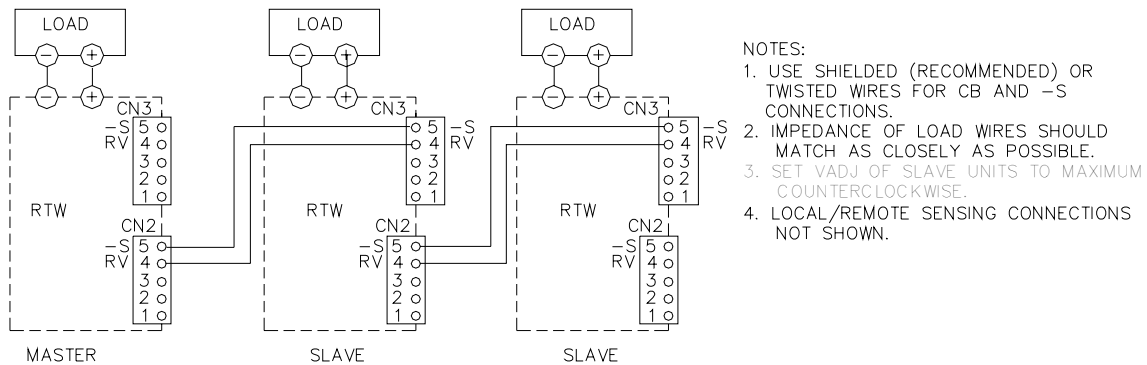

FIGURE 9. PARALLEL CONNECTION, MASTER-SLAVE, MULTIPLE LOADS
Figure 9 shows the master-slave connection of three power supplies in parallel, each having an independent load, with output voltage controlled by the Vadj control of the master power supply. Use shielded wire (recommended) or twisted wires for connections to RV and -S terminals. If optional Cable Kit 219-0493 (PAR. 6.6) is used, the wire at pin3 (CB) must be cut. NOTE: Vadj control of all slave units must be set to maximum counterclockwise for this configuration to operate properly.